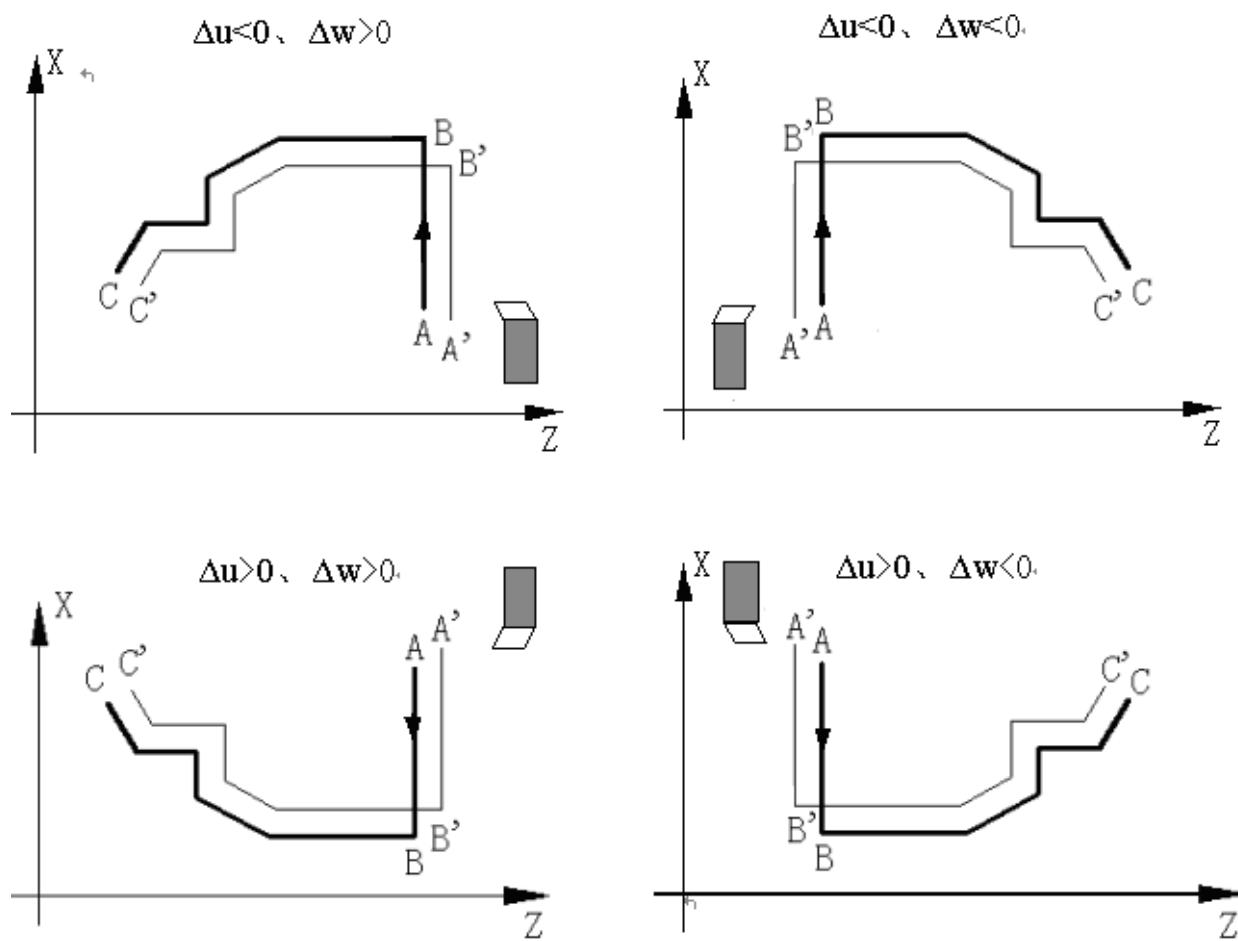

Fig.2-36
Finishing path	As Fig. 2-36, Part (3) (ns~nf block) defines the finishing path, and the start point of finishing path (start point of ns block) is the same as the start point and end point of G71, called A point; the first block of finishing path(ns block) is used for X rapid traversing or tool infeed, and the end point of finishing path is called B point; the end point of finishing path(end point of nf block) is called C point. The finishing path is A→B→C.
$\Delta u$ ,  $\Delta w$  define the coordinates offset and its direction of finishing, and their sign symbols are as follows Fig. 2-36: B→C for finishing path, B'→C' for roughing path and A is the tool start point.